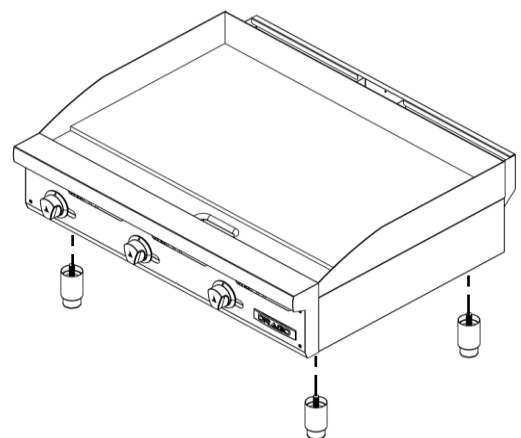

Fig. 1
1. Install the 4 leveling leg through the bottom of the griddle, screw the leg from the bottom into the assigned nut, be sure to screw the leg all the way in. (Fig. 1).